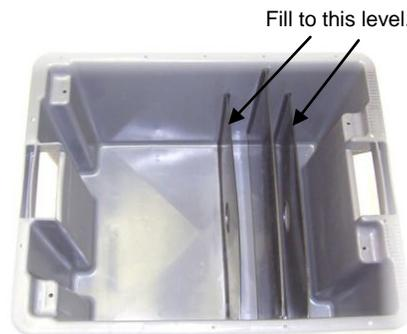

Figure 4
6. Fill the recirculating tank with seven (7) gallons of mixed coolant or until the mixed coolant reaches the top of the first or third baffle (see Figure 4).